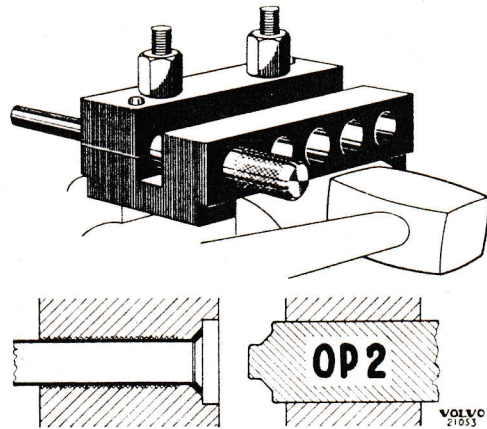

Fig. 28. Flaring brake pipeline.
4. Replace the drift with OP II (Fig. 28) and drive this in until it bottoms.